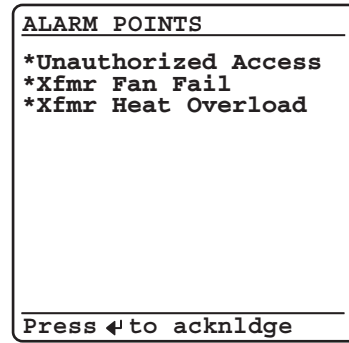

Figure 15 Sample Alarm Points Screen
*Figure 15* shows a sample alarm points screen. The relay can display as many as 66 alarm points. The relay automatically displays new alarm points while in manual-scrolling mode and in autoscrolling mode. Assign the alarm point messages by using SER Points settings. The asterisk next to the alarm point indicates an active alarm. Use the front-panel navigation pushbuttons to clear inactive alarms.